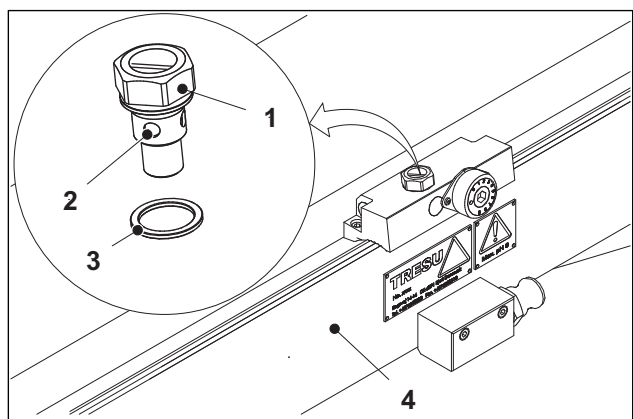

Fig. 47 Relief valve on the pressurized chambered blade
1. Unscrew the relief valve (Fig. 47/1) with a fork wrench or ring spanner SW22.
2. Clean the relief valve. Ensure that the ball (Fig. 47/2) can be moved easily.
3. Reinstall the relief valve with the flat gasket (Fig. 47/3).